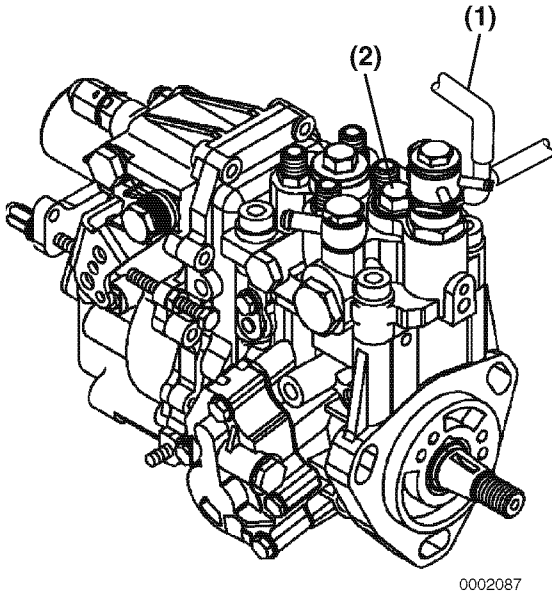

Figure 7-41
2. Clamp shut the fuel injection pump fuel return hose leading to fuel filter **(Figure 7-41, (1))**.
3. Remove the forward fuel injection pump plunger plug **(Figure 7-41, (2))** on the top of the fuel injection pump.